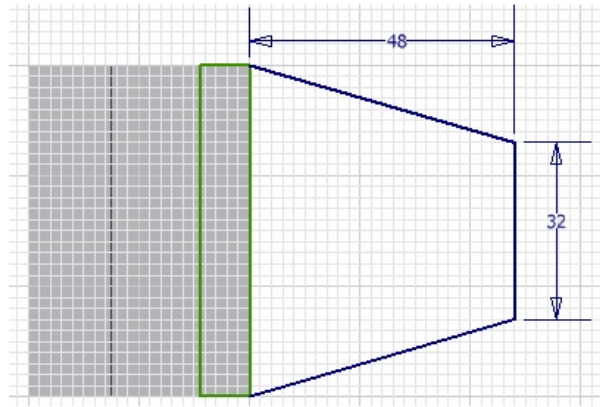

Figure 5-99 Sketch for the first join feature
2. Reorient the view using the ViewCube, see Figure 5-99. Draw the sketch for the first join feature and add the required constraints and dimensions to it, as shown in Figure 5-99.